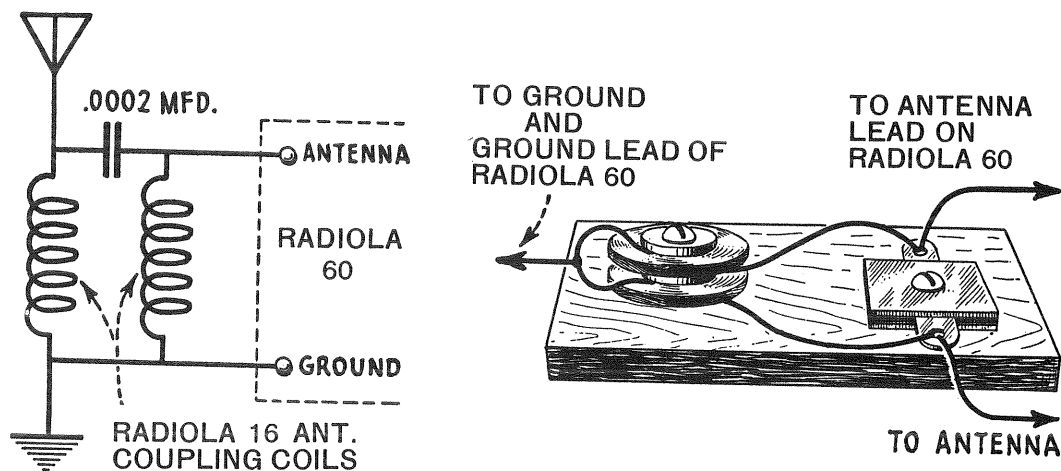

Figure 5—Long wave interference filter
- (b) Connect as shown in Figure 5.